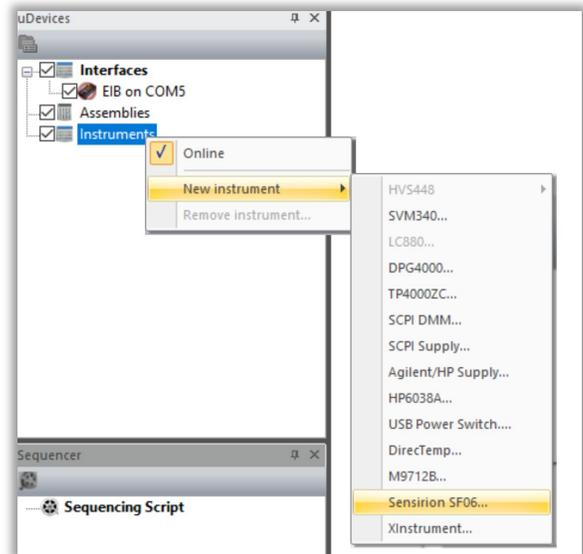

Figure 2. Adding Sensirion Flow Sensor
3. Right-click on **Instruments** (Figure 2).